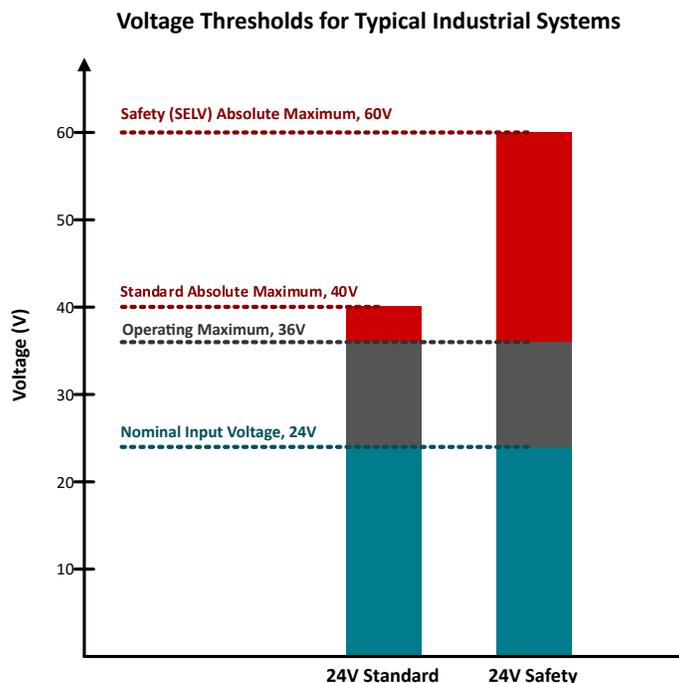

Figure 1-6. Voltage Thresholds for Typical Industrial Systems
1.2.4 discusses SELV requirements in more detail. Figure 1-6 summarizes the voltage thresholds for typical industrial automation systems.